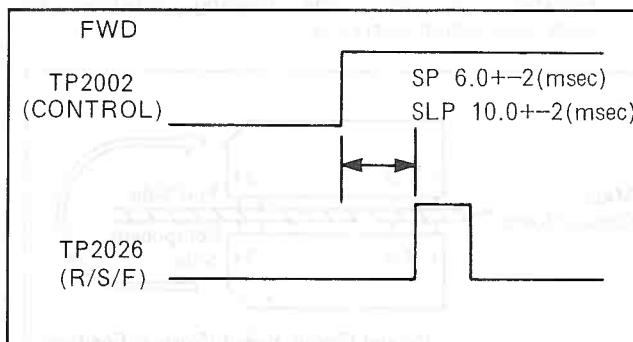

Fig. E4
2. Adjust VR2011 so that the phase difference becomes 6.0+-2 (msec) as shown in Fig. E4.
4. Adjust VR2006 so that the phase difference becomes 10.0+-2 (msec) as shown in Fig. E4.